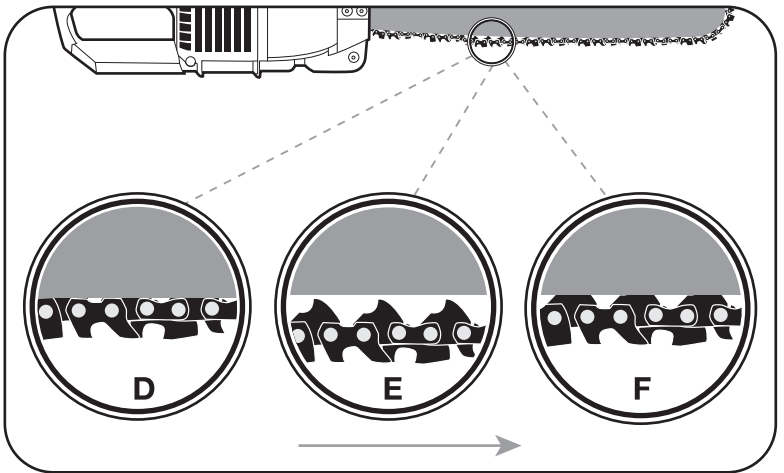
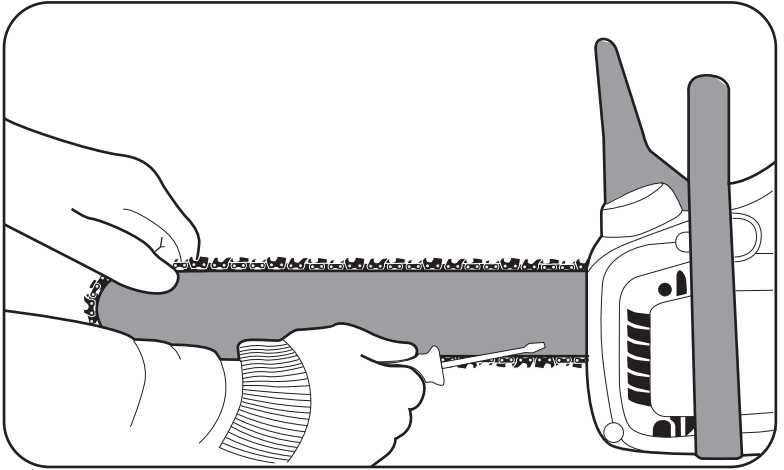

Figure 4
Figure 5
CAUTION: If chain is TOO LOOSE (E) or TOO TIGHT, the bar, chain and saw bearings will wear more rapidly (Figure 4). Study Figure 4 for correct cold tension (D) and correct warm tension (F).
1. Hold the nose of the bar up and turn adjustment screw CLOCKWISE to increase chain tension. Always maintain a snug fit all the way around the cutting bar (Figure 5). See Figure 4 for correct chain tension.